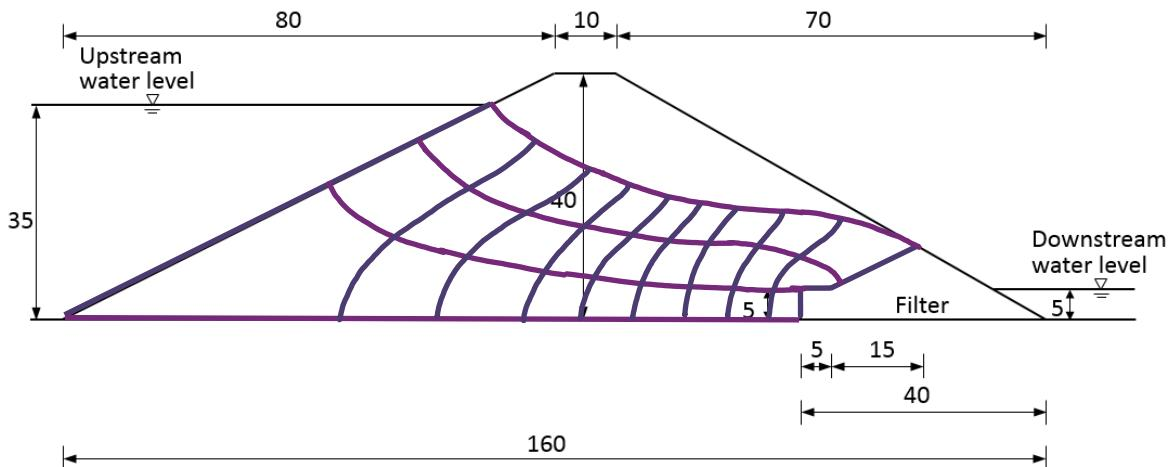

Figure Q1 (all dimensions in mm)
- b.) A section through a model experiment designed to investigate flow through an earth dam, similar to that used in your laboratory class, is shown in Figure Q1.
(iii) If the dimensions given in Figure Q1 represent a given scale (e.g. 1:10), what additional information would you need to calculate the flow? (8 marks)